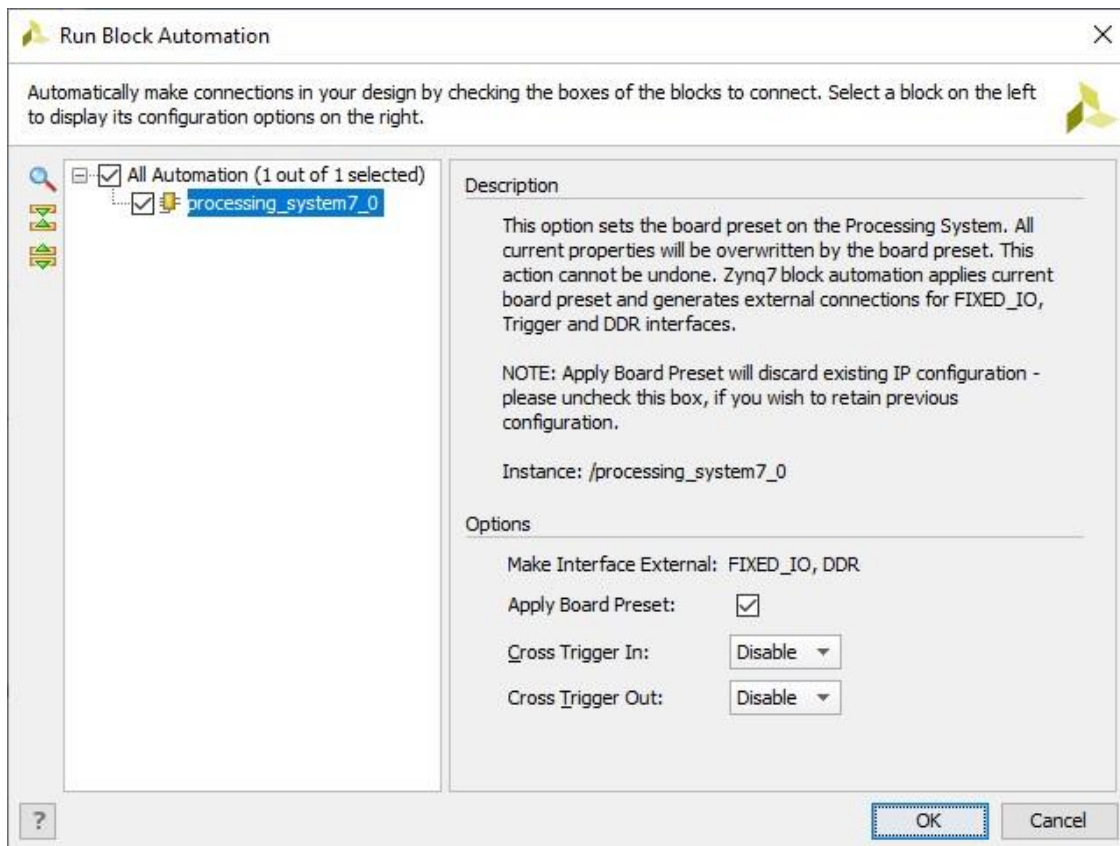

Figure 8: Block Automation dialog box.
6. The **Run Block Automation** dialog box opens (Figure 8), allowing you to select the interfaces to connect to the ZYNQ7 core. Click **OK**.